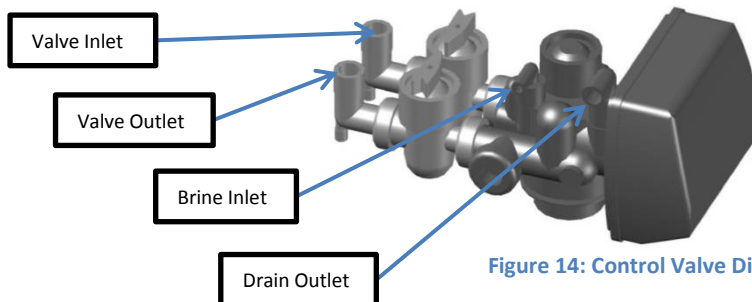

Figure 14: Control Valve Diagram
- A. Pipe or tube a line from the Control Valve Drain (Figure 14) to the drain. Refer to section 9 for the proper sized drain line.